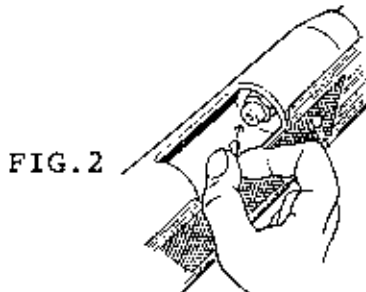

FIG.2
2) THE COCKING ACTION OPENS THE BREECH AND EXPOSES THE BARREL READY TO INSERT A PELLET. (FIG.2) ALWAYS CHECK THE SAFETY BUTTON BEFORE INSERTING A PELLET.